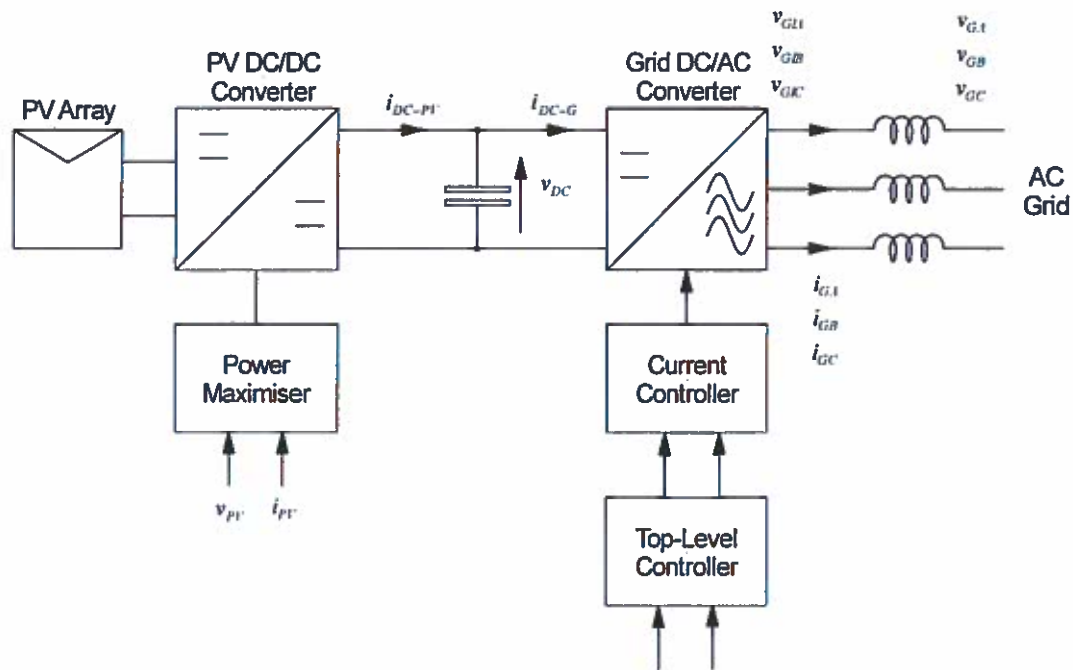
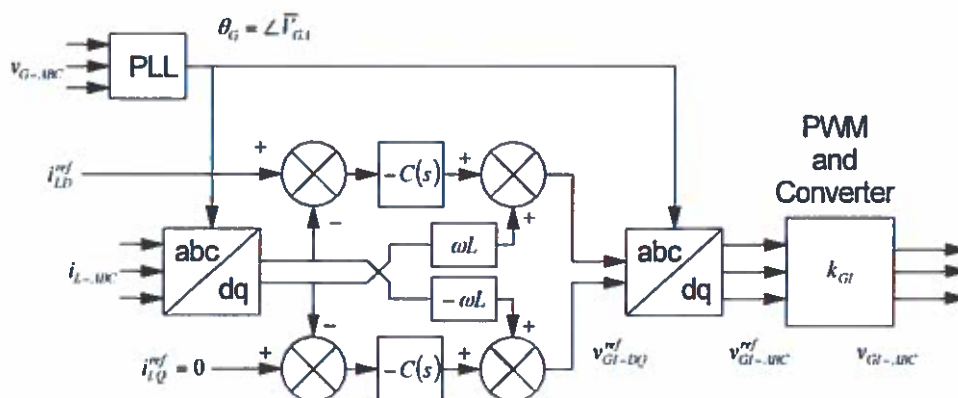

Figure 1.3 Schematic diagram of the current controller for a three-phase inverter.
Figure 1.4 Schematic diagram of the current controller for a three-phase inverter.
- c) Consider the system shown in Figure 1.3. It is composed of a power source (in this case a PV panel followed by a DC/DC converter), a DC-link capacitor, a DC/AC converter, interface inductors, a 3-phase grid, a current controller and a high-level controller.
- i) Figure 1.4 shows the control system to be used for current controller of figure 1.3 which acts on the PWM signals of the DC/AC converter. Explain the purpose of each block in figure 1.4. [5]
- ii) Sketch and describe the format of the top-level controller that sets current references for the controller of figure 1.3 in order to export the power from the source. [3]